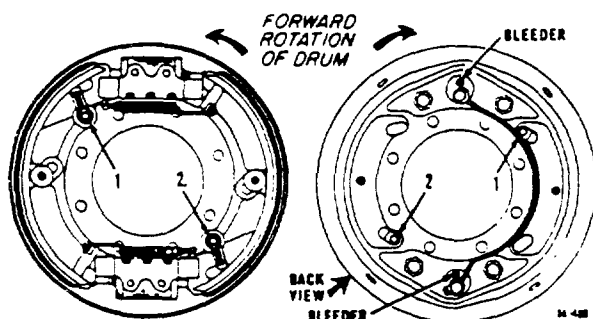

Figure 13-32. Outboard and Inboard Views of Left Rear "FR" Brake
Adjustment. See Figure 13-32
2. Insert Allen wrench in adjustment slot (1) or (2), see Figure 13-32, to contact shoe adjusting worm. Rotate wrench in the direction of forward wheel rotation until lining drags on drum.